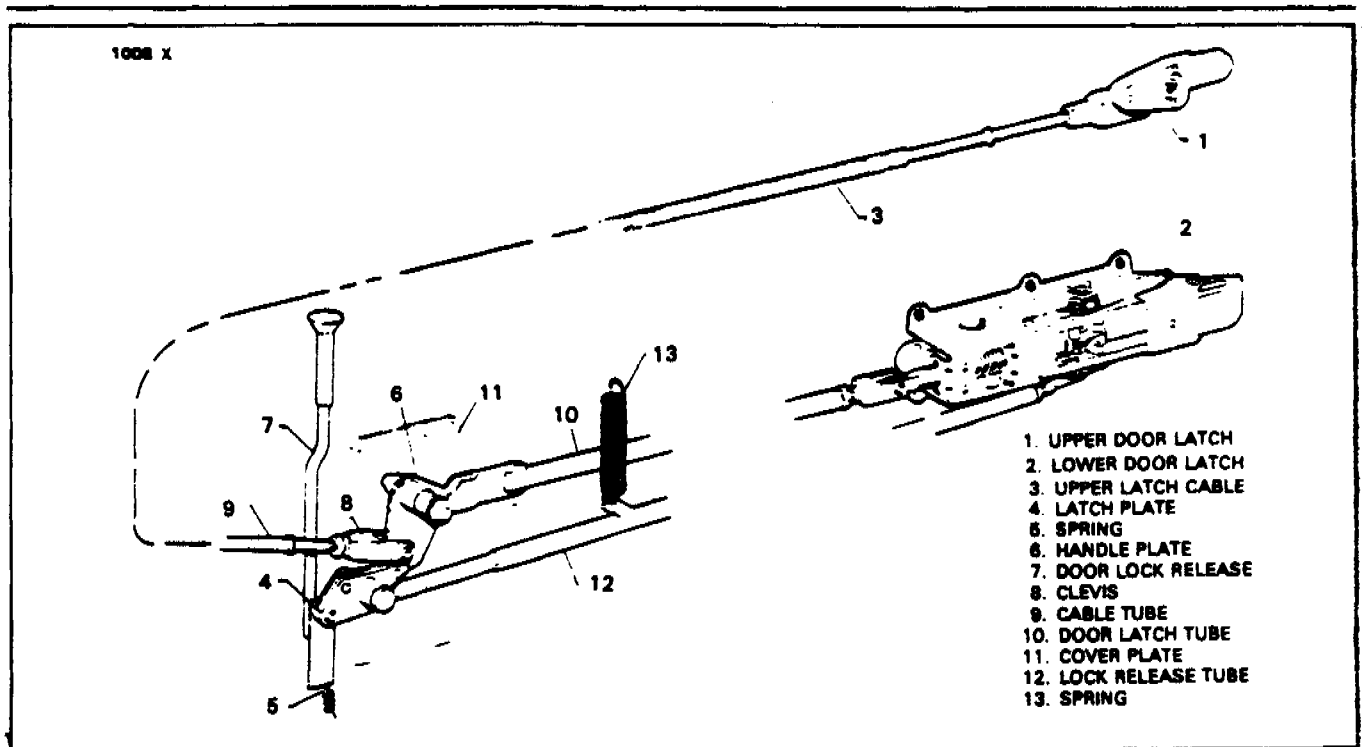

FIGURE 4-7. DOOR LOCKING MECHANISM
4-41. Installation And Adjustment Of Door Locking Mechanism. (PA-24-250, Serial Nos. 24-3285 and up, PA-24-260 and PA-24-400) (Refer to Figure 4-7.)
- Install the upper (1) and lower (2) latch assemblies.
- Install latch cable assembly (3) and connect the clevis rod end to the upper latch. Allow approximately three threads of the cable end exposed from the clevis, tighten the lock nut.
- Lubricate and install latch plate (4), door lock release (7) and latch spring (5).
- Lubricate and install the door handle shaft-plate assembly (6). With the latch plate in locked position, draw the door handle up and to the rear allowing the pawl of the handle-plate assembly (6) to catch the latch plate (4) as shown in Figure 4-7.